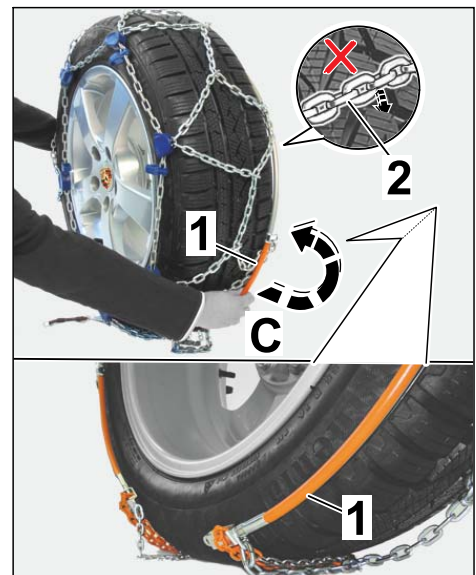

Figure 6
2.1.4 Guide the ends of the spring steel clip at the bottom of the wheel behind the wheel (⇒ *Figure 6 -C-*).
2.1.6 Arrange the chain net and make sure that no bars of the chain are caught in the tread (⇒ *Figure 6 -inset-*).